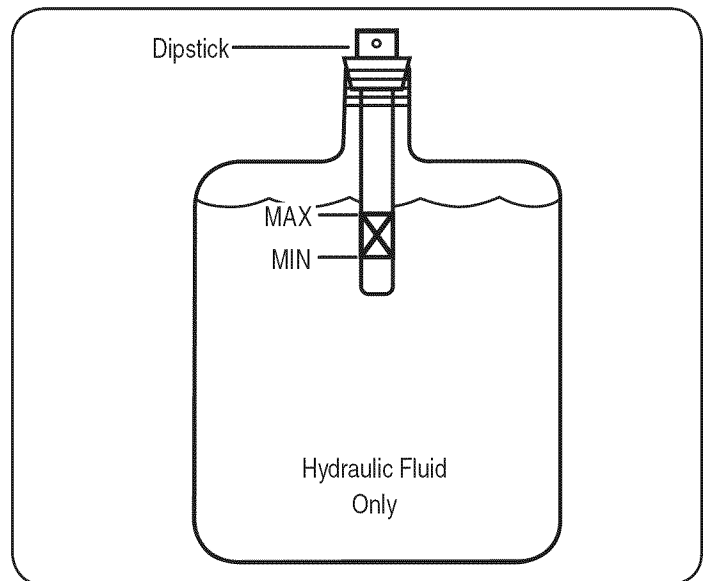

Figure 20
11. If necessary refill the reservoir within range marked on the dipstick. See Figure 20.